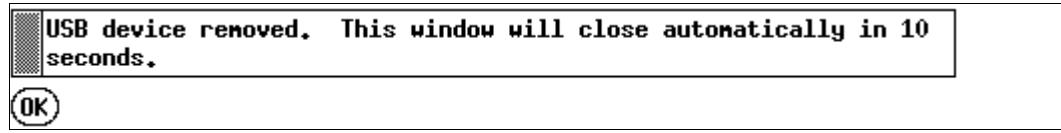

Figure 7-20 Removable media disconnected from HMC
8. You can now remove the USB flash drive. When disconnected, the HMC message advises you that the USB flash drive has been removed (Figure 7-20). Click **OK**.